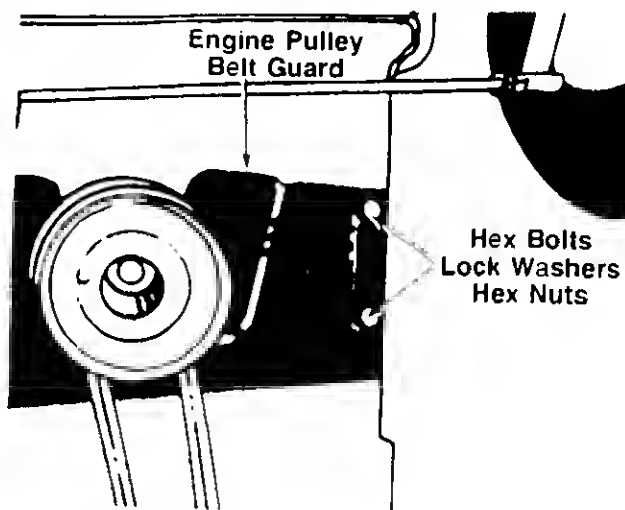

FIGURE 29.
5. Remove the two bolts, lock washers and nuts on each side of the frame which hold the engine pulley belt guard to the frame. See figure 29.